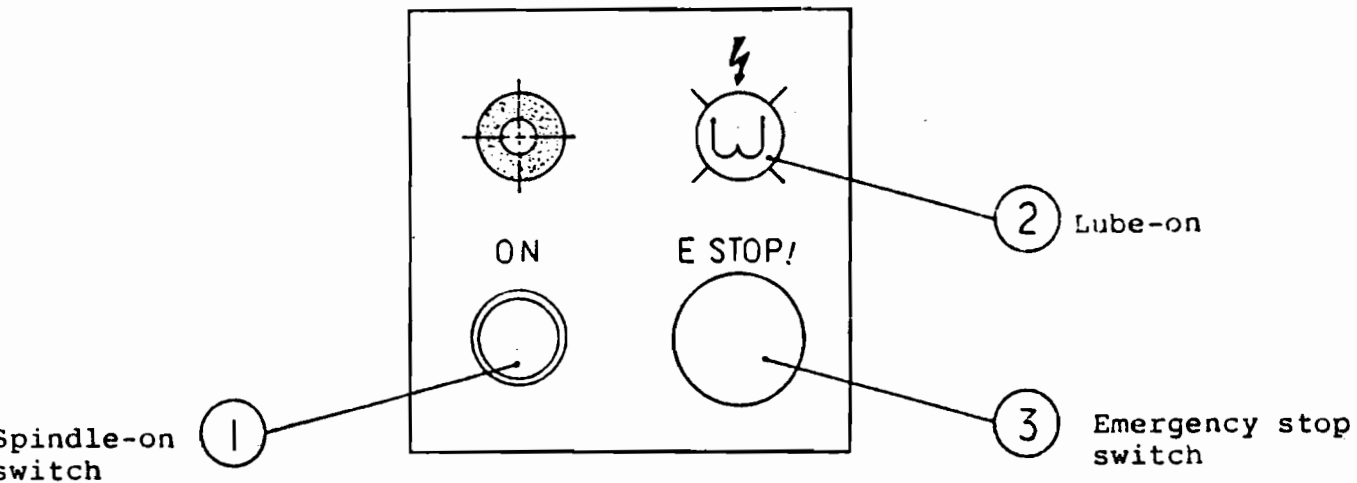

Fig.10
2. When machine is out of lubricant, the green lamp on the operating panel (Fig.10) will be shut off automatically by this time you are to fill up the lubricant reservoir when the lamp will light up again.